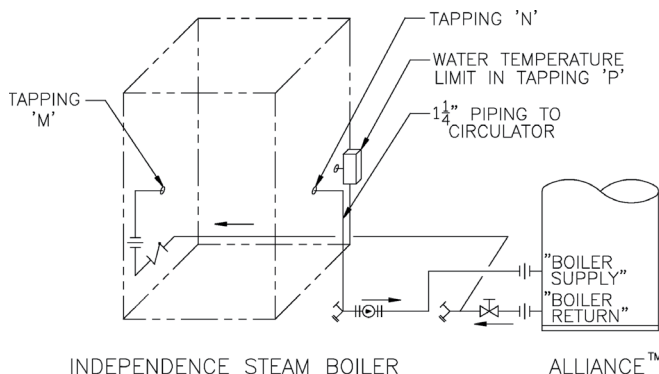

Figure 24: Recommended Piping for Indirect Water Heater
E. Alliance SL™ Indirect Water Heater (if used). Refer to Alliance SL™ Installation, Operating and Service Instructions for additional information. See Figure 24 for piping recommendations.